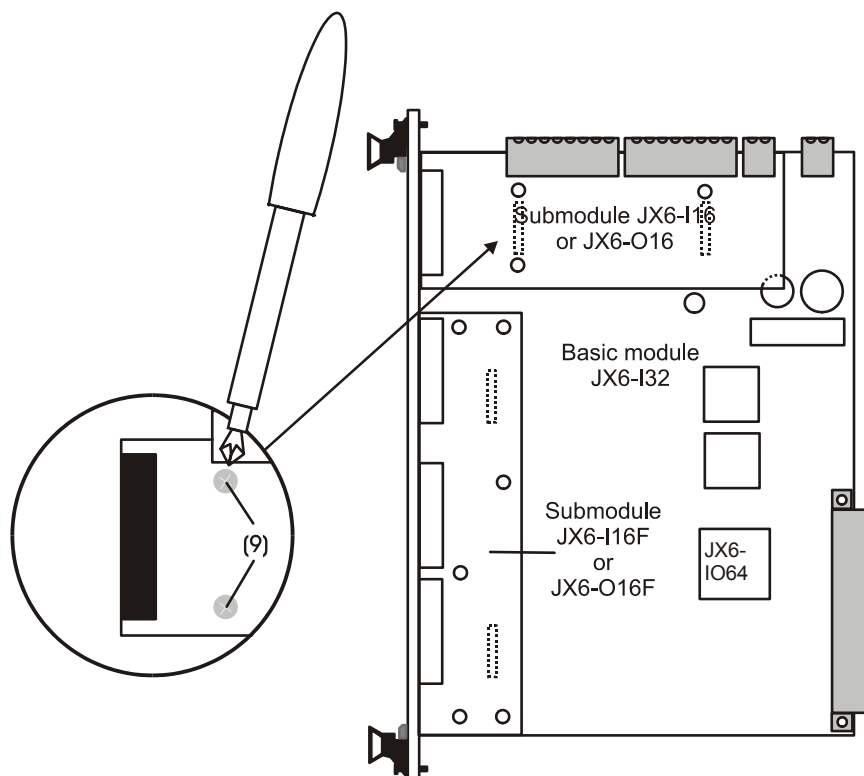

Fig. 34: Removing a submodule from the basic module JX6-I32
➤ Unscrew these screws (9) with a screwdriver (see Fig. 34).